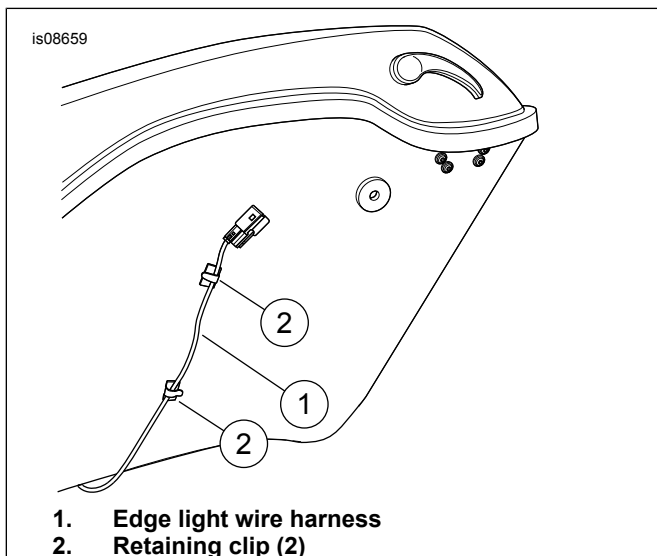

Figure 2. Retain Wire Harness
13. See Figure 2. Tilt the saddlebag outward to gain access inner wall of the saddlebag. Route the edge light wire harness (1) towards the front of the motorcycle. Avoid pinch points that could damage the wire harness. Secure with two retaining clips (2).